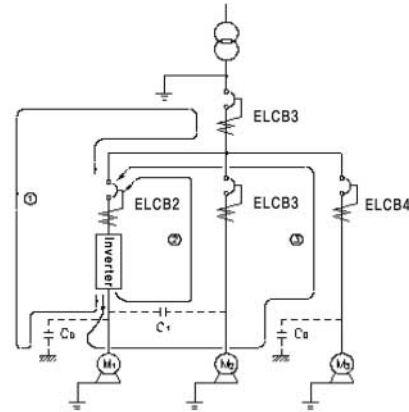

Fig. G-7. Circuit Model with Inverter Installed
- (1) In an inverter circuit, the inverter which is generating the principle of high frequency leakage current converts voltage of common frequency(60Hz) to direct voltage. Then through a high speed switching circuit, it converts to high frequency voltage. Because this voltage is composed of pulse form square waves, it contains harmonics of high frequency. This inverter output voltage generates high frequency leakage current through the load side cable and motor's ground electrostatic capacity. In Fig. G-7, it shows a diagram in which an ELCB and an inverter are connected. High frequency leakage current can flow through the load side cable and motor's ground electrostatic capacity in here, moreover it can have an effect on different adjacent circuits according to the cable installation method.
It is explained as below about leakage current of three different paths indicated in Fig. G-7.